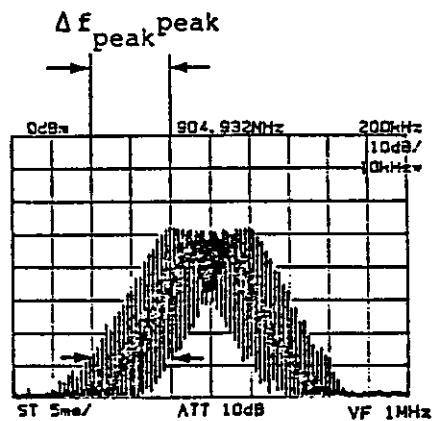
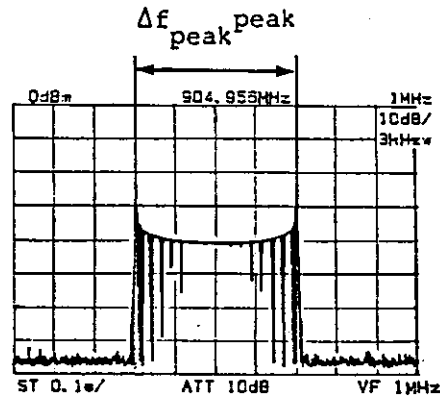

Figure 5-16 Waveform When Δf_{peak} Is Small
Figure 5-17 Waveform When Δf_{peak} Is Large
- ② Set the center frequency to the carrier frequency.
- ③ Set the frequency span to a value enabling easy measurement according to the peak deviation.
- ④ Set the resolution band width to a value including the principal sideband (more than five times the modulation frequency).
- ⑤ Figure 5-16 shows a case where Δf_{peak} is small and Figure 5-17 shows a case where it is large. Measure the Δf_{peak} from the waveform.
- Figure 5-16: When Δf_{peak} is small
- Figure 5-17: When Δf_{peak} is large